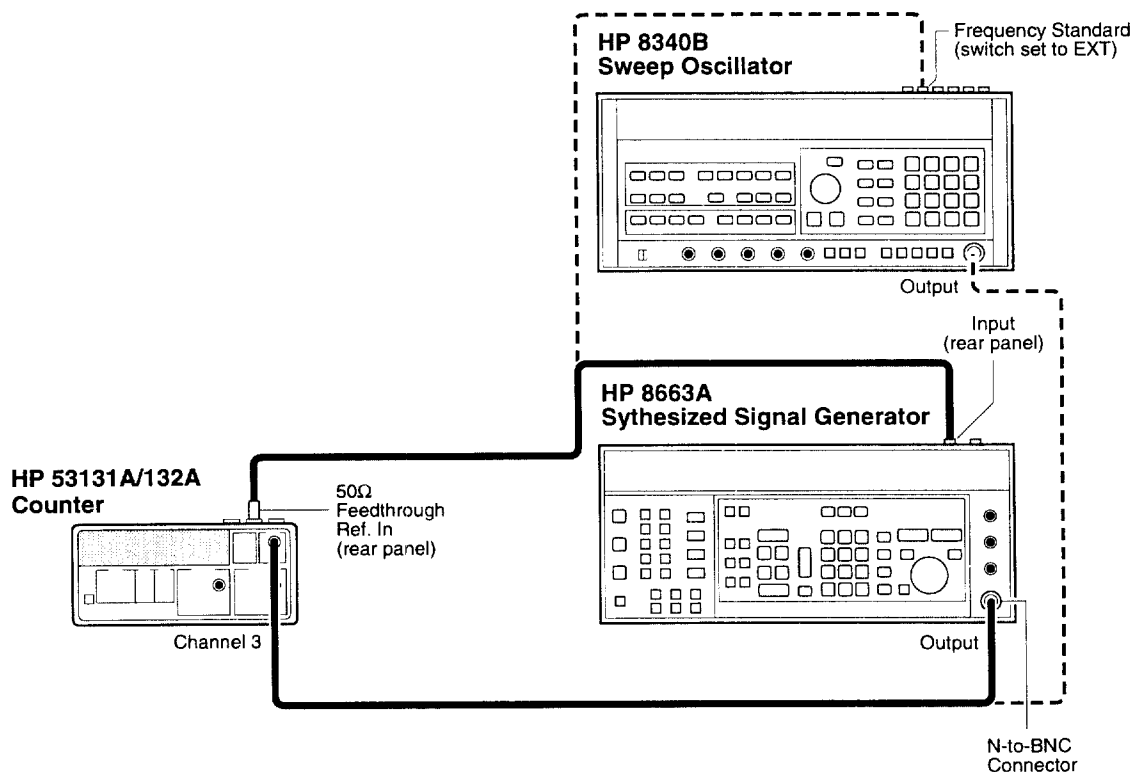

Figure 1-10. Option 030/ 050 Frequency Accuracy Test Setup
- 1 Connect equipment as shown in Figure 1-10.
- 5 Disconnect the HP 8663A output from Channel 3 of the Counter, and connect the HP 8340B Sweep Oscillator output to Channel 3 of the Counter as shown in Figure 1-10.**